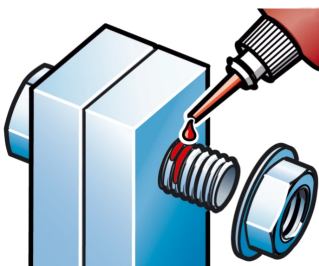

FIG 1
2. For through hole , insert bolt and apply adhesive to the exposed thread. Assemble nut and tighten to the correct torque (FIG 1).